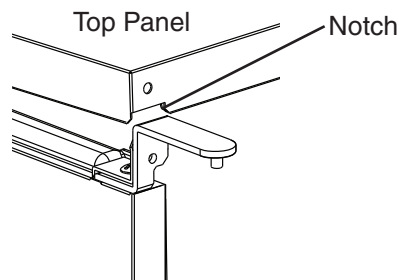

Fig. 14
- e) Rotate the top panel 180° from its previous position. This brings the notch that was previously in the right rear to the left front. See Fig. 14. Hook the rear part of the panel on the body, then secure the front with the 2 screws removed in step 6a.